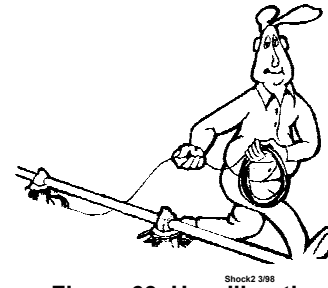

Figure 69. Unrolling the Cable
1. Unroll the bulk anti-roost cable. Note: If the cable is unrolled as shown in **Figure 69**, taking 5 loops of the coil with one hand, then changing hands to remove 5 loops as it is unrolled, it will lie flat during installation.